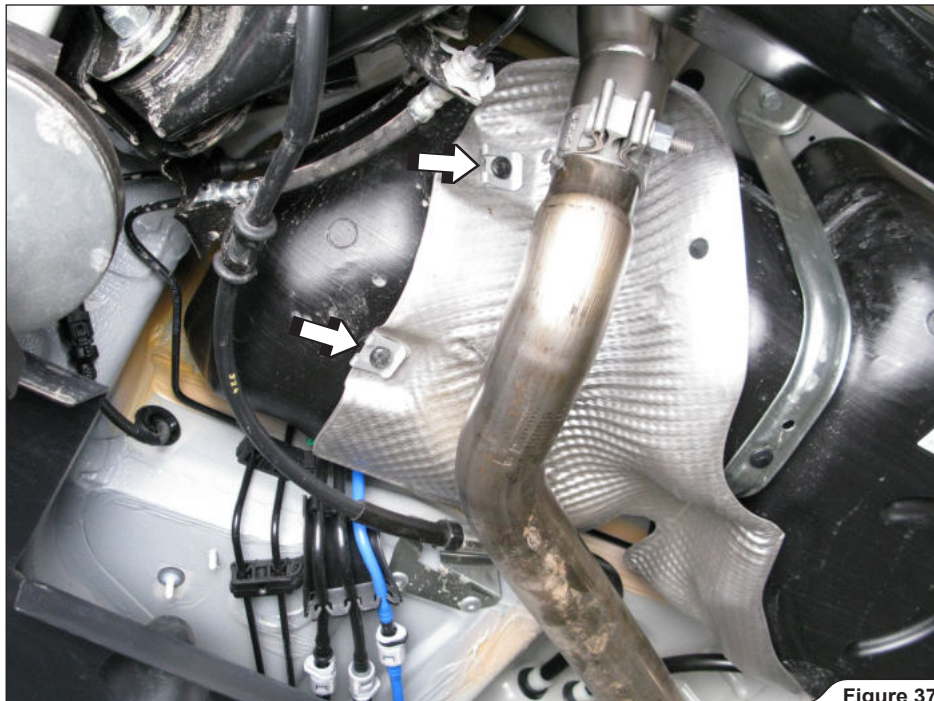

Figure 37
28. **For optional wireless kit only:** reinstall the heat shield's clips and the installations protection (Figure 37, 38).